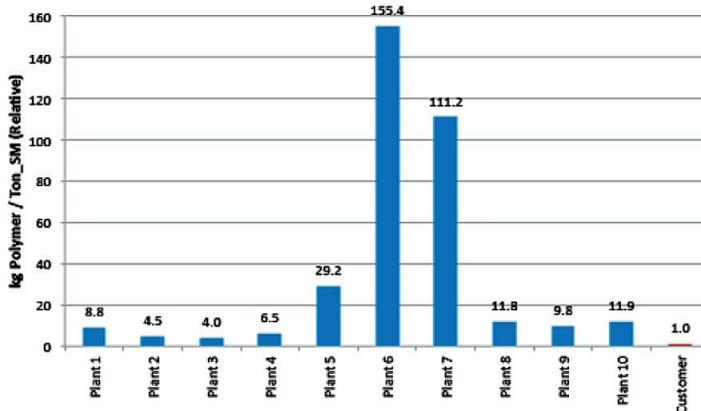

FIGURE 2: POLYMER MAKE BENCHMARK REVEALED CUSTOMER WAS PROBABLY OVERDOSING INHIBITOR AS POLYMER WAS SIGNIFICANTLY LOWER THAN TYPICAL OPTIMIZED PROGRAMS.
- Existing program was over-dosed and the polymer formation was null with the corresponding inhibitor high financial impact as the benchmarking results depict in Figures 2 and 3
- Figure 2 - Polymer Make Benchmark revealed customer was probably overdosing inhibitor as polymer was significantly lower than typical optimized programs.